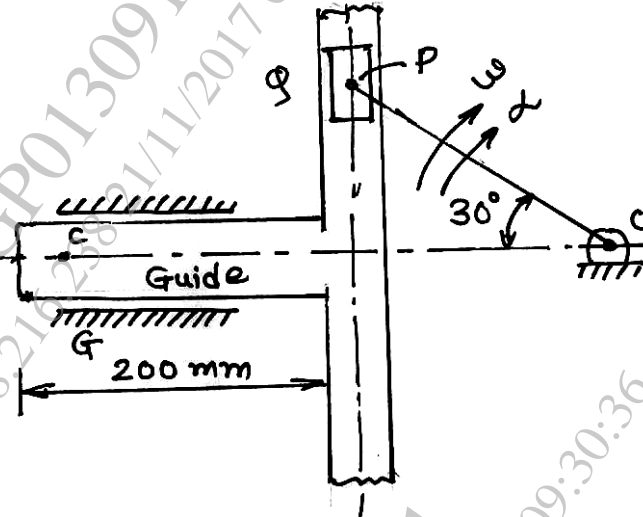

Fig. 3
- (b) The Fig. 3 shows Scotch Yoke Mechanism. The length of the crank OP is 200 mm. At the instant shown in fig. the crank OP has angular velocity of 10 rad/s and angular acceleration